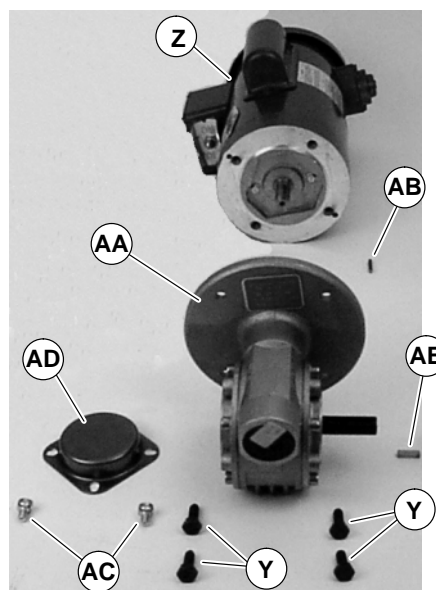

Figure 16
5. Remove four screws (Y of Figure 16). Detach motor (Z) from gear reducer (AA). Retain motor output shaft key (AB).
11. With key (J of Figure 16) in keyway, slide motor (Z) and gear reducer (AA) together. Install screws (Y) and tighten.